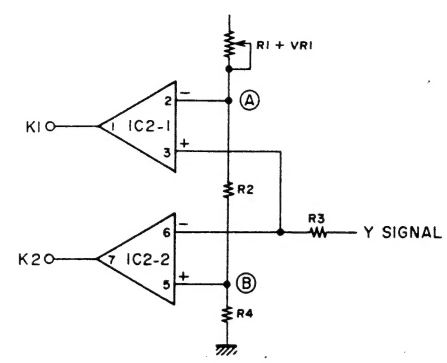

Fig. 11
Fig. 11 shows the comparator circuit used to operate the AGC circuit. If the Y signal level (input to the window comparator) is higher than voltage E_A at point (A), IC2-1 output goes to "H" level. On the other hand, if the Y signal level is lower than voltage E_B at point (B), then IC2-2 output goes to "H" level. Thus, output goes to "L" if the input signal E_Y is: E_B < E_Y < E_A. The AGC circuit is controlled in such a manner that the output goes to "L".